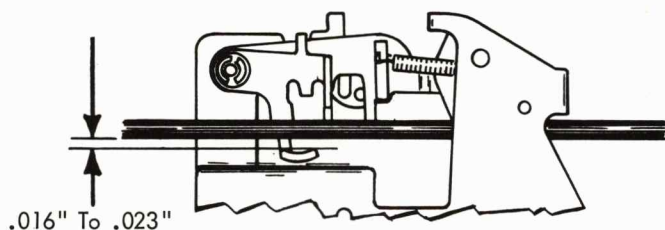

FIGURE 167. Tab Trigger Extension
9. Tab Trigger Extension (Fig. 167) - Form the front (curved) lug of the tab trigger to obtain .016" - .023" clearance between this lug and the tab torque bar with all parts at rest.